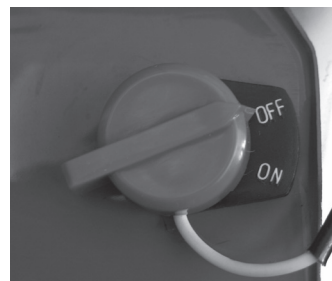

Fig. 10
1. Set the engine switch (2) to the OFF position (ON, 0) (Fig. 10).